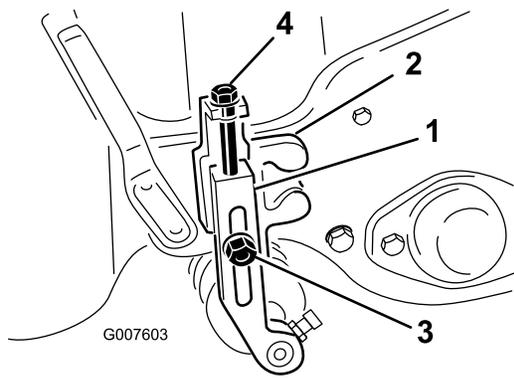

Figure 47
2. Loosen the locknuts securing the height-of-cut arms to the height-of-cut brackets (Figure 47).